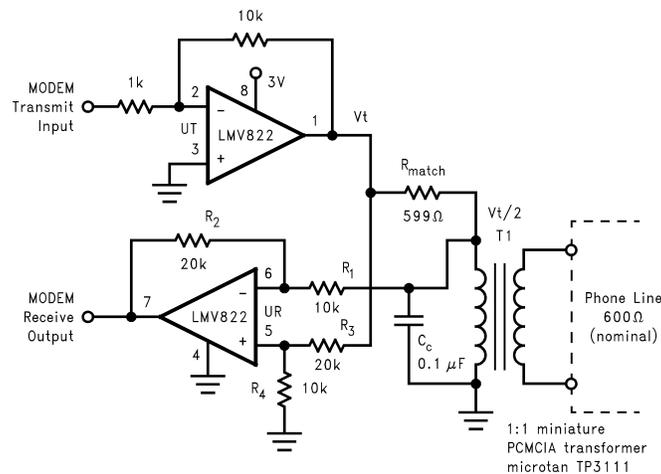

Figure 39. Telephone-Line Transceiver for a PCMCIA Modem Card
The telephone-line transceiver of Figure 39 provides a full-duplexed connection through a PCMCIA, miniature transformer. The differential configuration of receiver portion (UR), cancels reception from the transmitter portion (UT). Note that the input signals for the differential configuration of UR, are the transmit voltage ( $V_T$ ) and  $V_T/2$ . This is because  $R_{match}$  is chosen to match the coupled telephone-line impedance; therefore dividing  $V_T$  by two (assuming  $R_1 \gg R_{match}$ ).